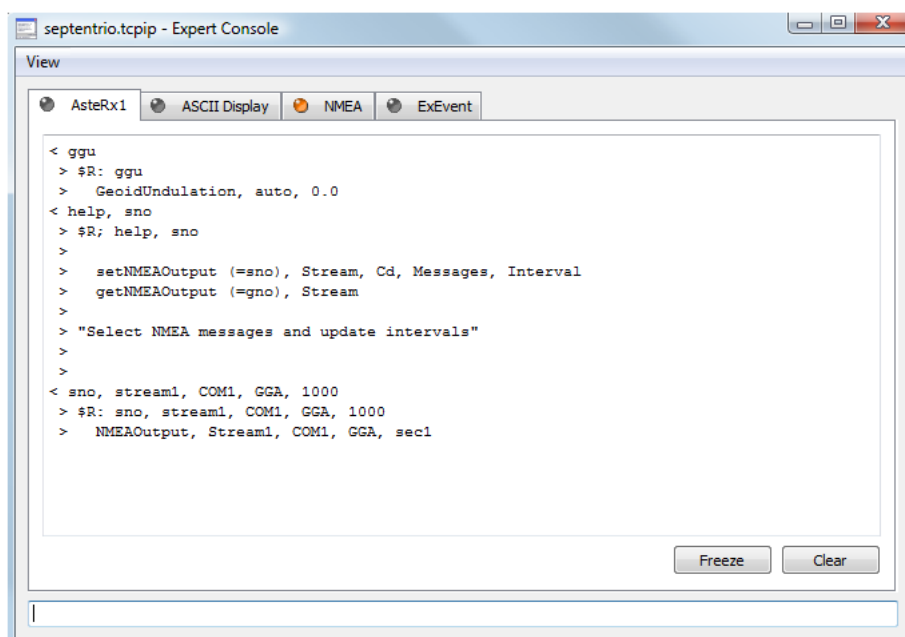

Figure 2-41: The Expert Console displaying its Receiver Communication tab
- At the bottom of the `Expert Console` is the **command line** (see Figure 2-41) used for sending commands to the Septentrio Receiver The `command line` is explained in more detail in Section 2.6.1.
The `Receiver Commands` tab of the `Expert Console` is the first tab and forms the central communication channel with the Septentrio Receiver for the expert user. The window is split up in the **message area** and the **command line** (see Figure 2-41). The expert user enters his/her commands on the command line, sending them to the Septentrio Receiver by pressing the `Enter` key. The message area displays the commands entered and the replies received from the Septentrio Receiver.